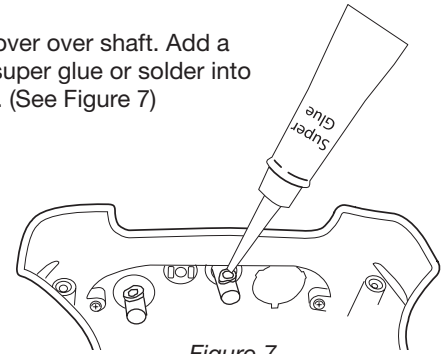

Figure 7
12. Slide button cover over shaft. Add a small drop of super glue or solder into the cover hole. (See Figure 7)
9. Slide button cover over shaft. Add a small drop of super glue or solder into the cover hole. (See Figure 7)